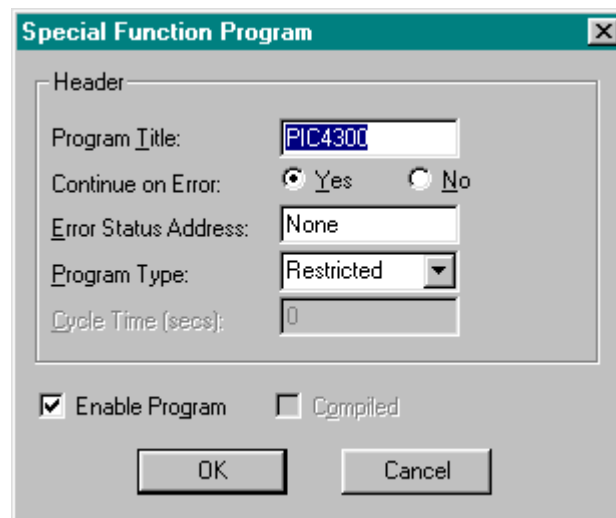

Figure 6.2
3. Now Click on the Header button and the following dialog box appears (see Figure 6.2).